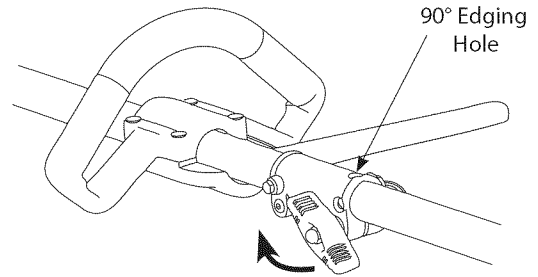

Fig. 11
3. Turn the knob clockwise to tighten (Fig. 11). The unit is ready to use.
- Always install the attachment so that the engine is upright (propane tank on bottom) when unit is operated. A secondary receiving hole is provided for use of a trimmer being used for edging only. No other accessory should be used in this secondary hole (90° edging hole) ( Fig.11).
For edging, lock the release button of the cutting attachment into the 90° edging hole (Fig.11), so that the engine remains in the upright position while operating.